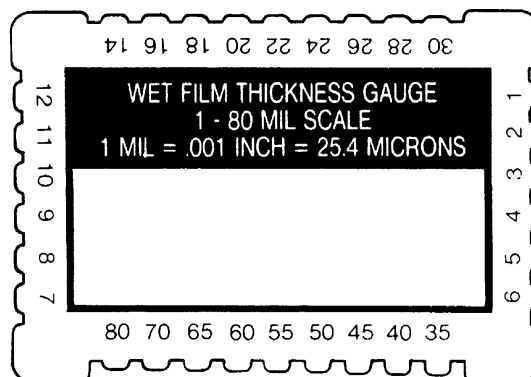

Figure 4-16. Film Thickness Gage.
(1) Check seams, welds, corners, and boxed areas to ensure that they are adequately coated.
(2) Check wet film thickness with a wet film thickness gage (see Figure 4-16). A wet film thickness of 10 mils is required. In areas where a wet film thickness of 10 mils cannot be obtained or where thickness cannot be measured, inspect for completeness of coverage.
(3) Check all drain holes to ensure that they are open.
(4) Check all inspection holes and drilled access holes to ensure that compound coverage is adequate. Use of a high intensity inspection light will help with this process.
(5) Check vehicle to ensure that no compound has been applied to prohibited areas (see CAUTION, paragraph 4-4).